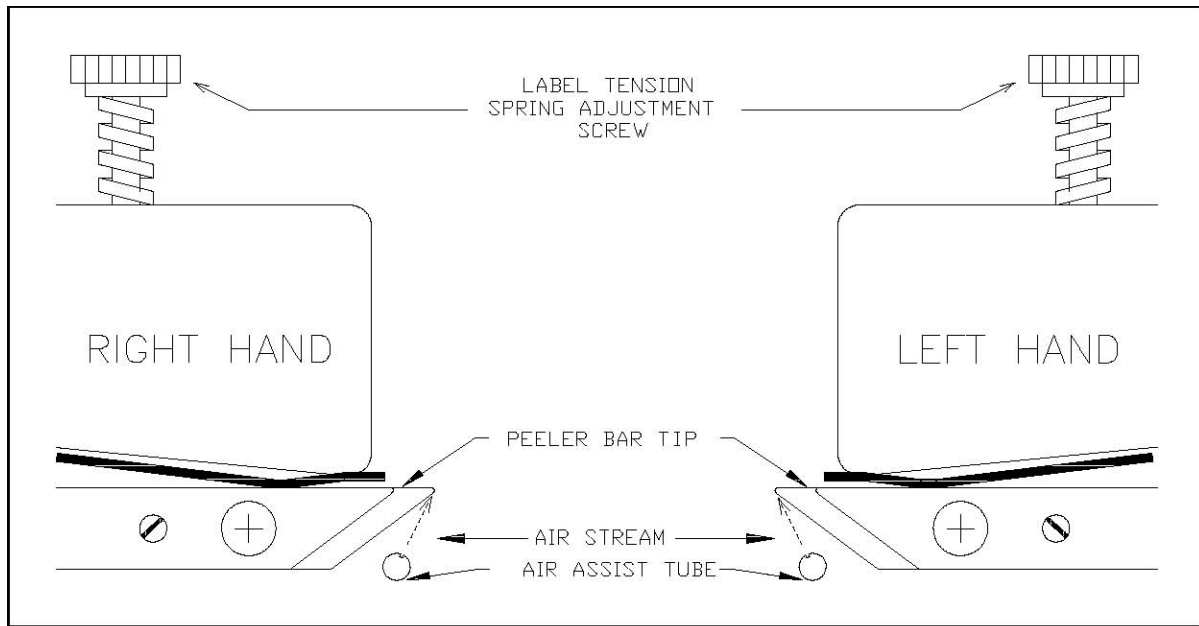

Figure 45 Air Assist Tube Adjustment To Correct Adhesive Strings
- c. Adjust the angle of the air assist tube so that the air hole is angled at the end of the peeler bar rather than parallel to it (see Figure 45). You may also need to increase the air assist pressure.